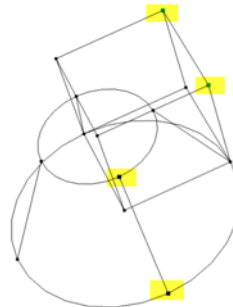
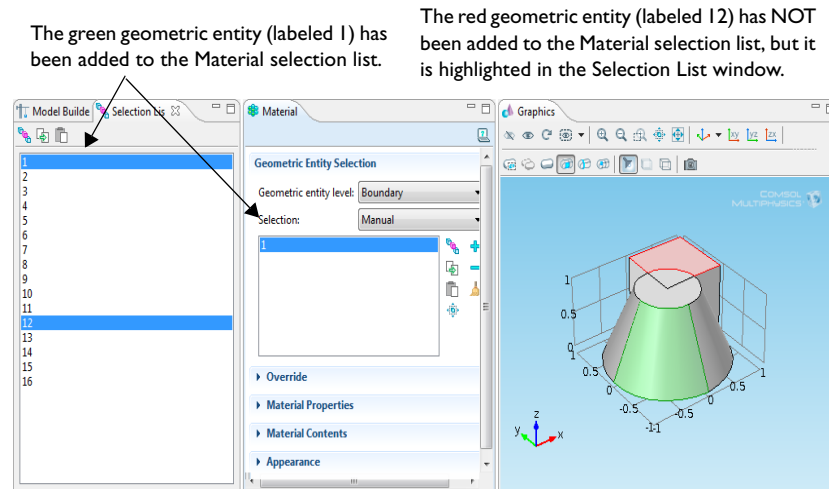

Figure 4-1: A 3D geometry comprises domains, boundaries, edges, and points.
Figure 4-2: Selecting geometric levels - highlighted to indicate status.
Figure 4-1). This enables visualization of a cube by displaying one or more of these four types. For instance, generate a wireframe plot by rendering only the cube's edges.
COMSOL Multiphysics highlights geometric entities at different stages of selection. Selected lines also have a thicker line width and selected points are larger. In Figure 4-1, each geometric entity is highlighted in red, blue, green, or with no highlight to indicate its status. It cycles between red (left-click to select the geometric entity), blue (right-click to add it to the selection), green (left-click to show that it is added), and no highlight (right-click to cancel the selection).
**Red** The geometric entity is highlighted but not added to the model selection list. Left-click once with the mouse. If you right-click it locks all red geometric entities. See Figure 4-2 for an example.
**Blue** The geometric entity has been added to the model selection list. The selection is highlighted in blue after you right-click once. See Figure 4-1 for an example.
**Green** After the geometric entity is added to the selection list, when you click anywhere (directly in the Graphics window, from the settings window, or in the Selection window) it is highlighted green, which corresponds to the name of the geometric entity in the Selection section in the settings window. See Figure 4-1 and Figure 4-2 for examples.